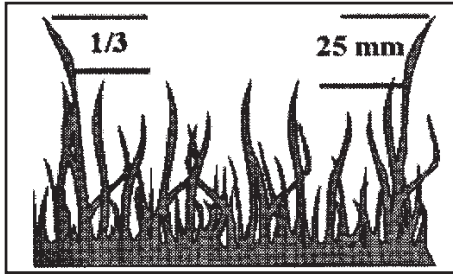

Figure 6 - Grass Height
- **Do not mulch on too low a cutting height.** Remember the maximum cut should be 25mm off the top of the grass, or 1/3 the grass blade height, whichever is the lesser amount. (Figure 6).